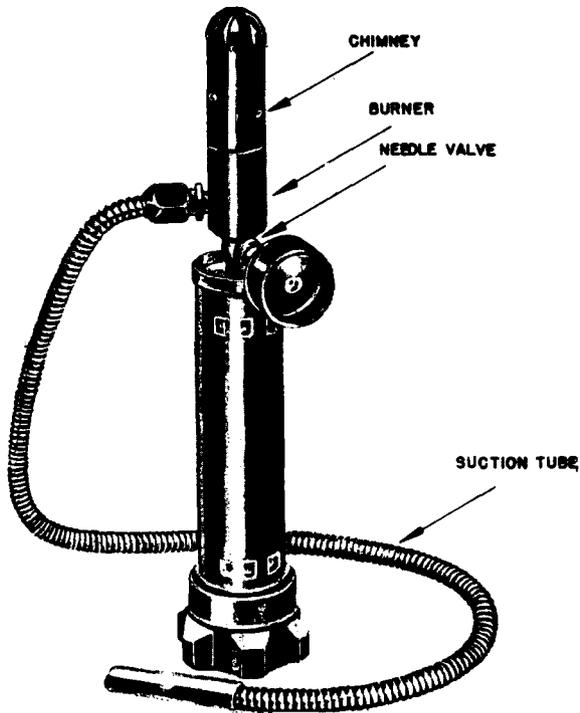

Fig. 11 — Halide Torch
7.02 Halide Leak Detector: A very valuable tool in the maintenanceman's tool kit is the halide torch, see Fig. 11. It is an open flame tool which utilizes color changes in the flame to detect the presence of Freon gas, and extreme care must be exercised in its use. Do not enter a room in which the leak is suspected with a lighted torch until the room has been thoroughly aired since any area improperly aired before making tests will decrease the accuracy of the test as the flame will indicate gas present anywhere in the room.